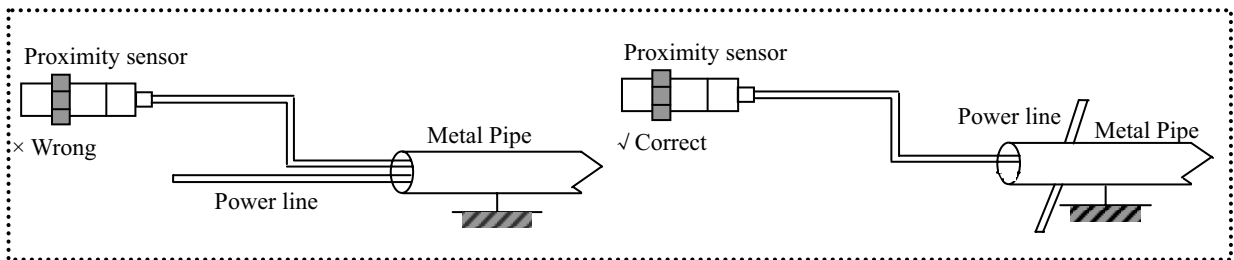

Figure 5
2. Use the shielded wire in case of damage and vibration, see figure 5.